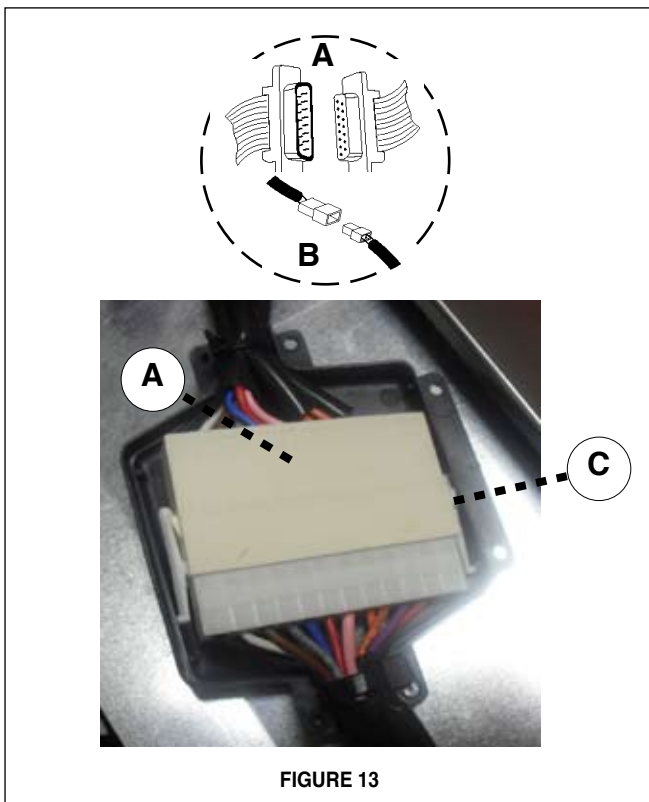

FIGURE 13
5. Connect the CONTROL CABLES together as indicated in A in FIGURE 13. Connect the LIGHT CABLES together as indicated in B in FIGURE 13. Insert the connected CONTROL CABLES (A in FIGURE 13) into the black plastic CONNECTOR BOX (C in FIGURE 13) by connecting the two black plastic pieces using the four screws provided.